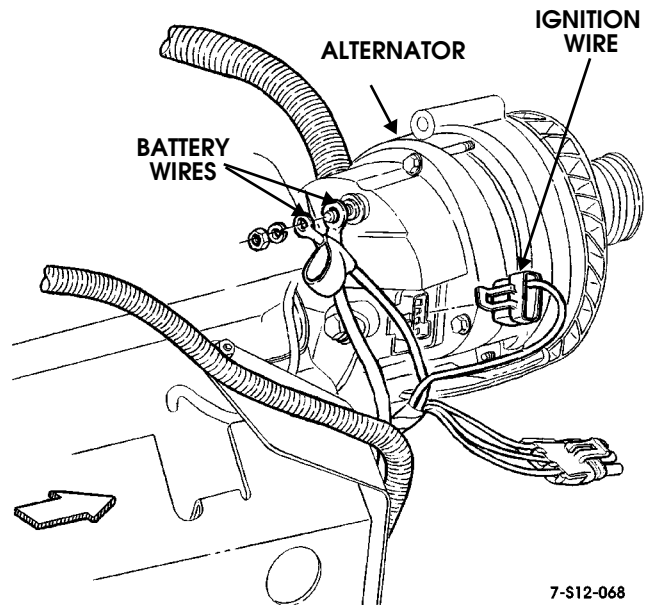

Figure 12-62: Engine Harness Connection at Alternator (Typical)
- Alternator wire (Figure 12-62)